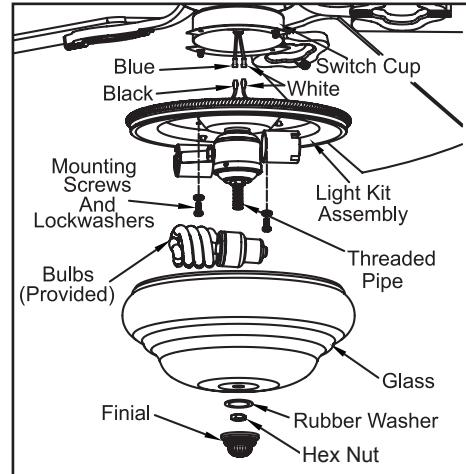

Figure 16
1. Remove two of four mounting screws and lockwashers on the switch cup below the fan motor assembly, loosen but do not remove the other two mounting screws and lockwashers (Figure 16).
6. With power off, install the light bulbs (Max. 14w) into the sockets (Figure 16).